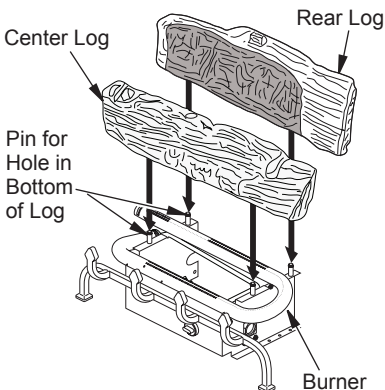

Figure 18 - Installing Rear and Middle Logs
1. Place rear log onto base. Holes in bottom of log must seat over pins on base as shown in Figure 18.
2. Place center log onto base. Holes in bottom of log must seat over pins on base as shown in Figure 18.